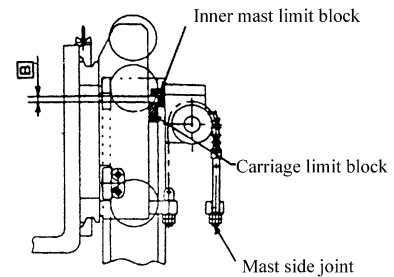

Fig.8.7
- (3) Lift fork to Max. height, and ensure gap \square between limit blocks of fork and of inner mast shall be 5-10mm. See Fig8.7.